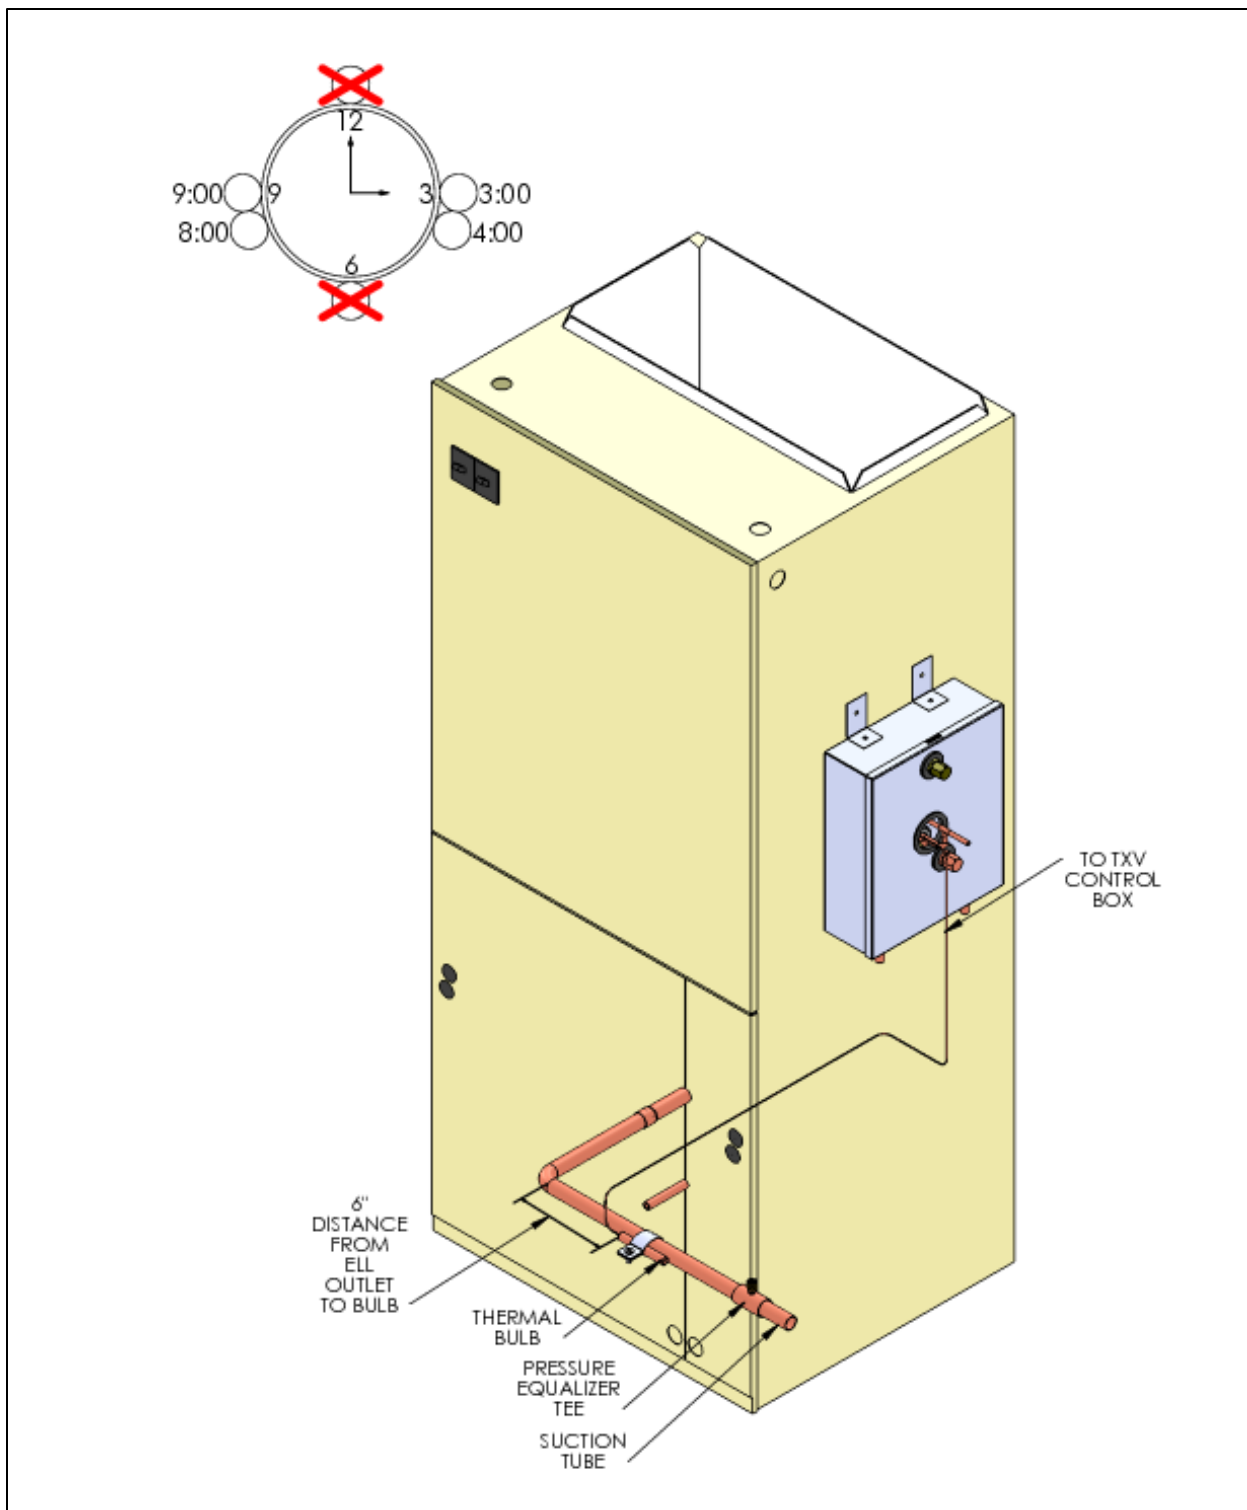

**Figure 9. Positioning the Pressure Equalizer Tee**
**Step 2: Position the Pressure Equalizer Tee** on the suction tube at least 10 inches downstream from the 90°ell, as shown in Figure 9. Remove the core from Schrader valve on the Tee.